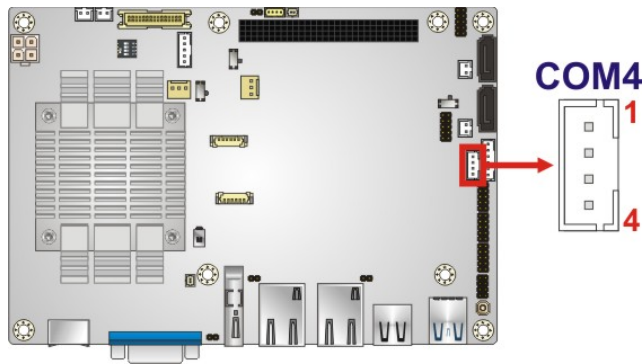

Figure 3-27: RS-422/485 Connector Location
- CN Location:** See **Figure 3-27**